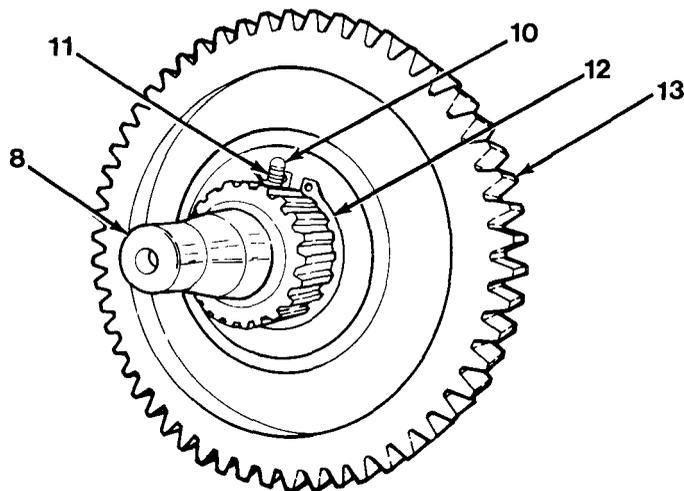

Figure 11-5
10. Remove shift collar (9) from output shaft (8).
11. Remove three detent balls (10) and springs (11, Figure 11-5).
12. Remove snap ring (12) from output shaft (8).
13. Matchmark top of gear (13) to output shaft (8) to aid in installation.
14. Remove gear (13) from output shaft (8).